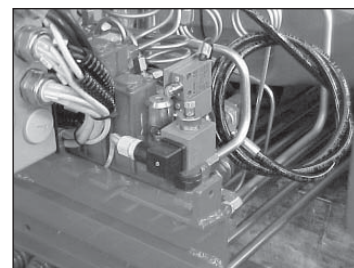

fig. 22
On the distributor it has been installed an electro-valve with a manual locking function (fig. 22) which allows to reactivate all the crane functions in case of absence of the electric power. Only in these conditions it is permitted to remove the lead seal which protects the device. Push the button and turn it into the clockwise sense (fig. 22a pos. 1-2); the button stays in stable and closed position.